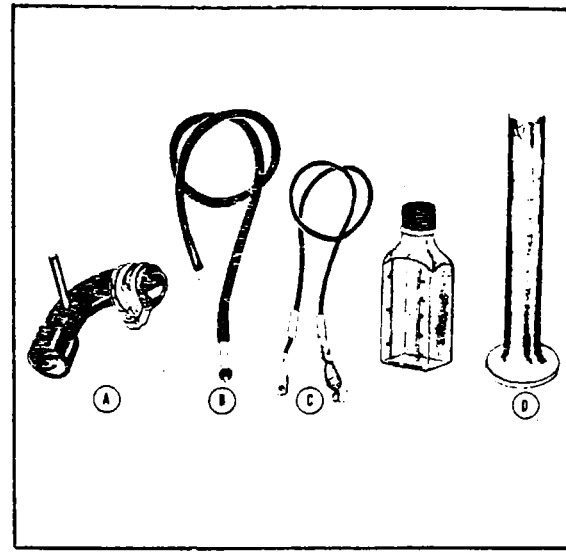

Figure 13-15. Test Stand Accessories
d. The test accessories consist of a test elbow (Refer to "A", Figure 13-15.), tubing adapter, rubber hose ("B", Figure 13-15), test wire ("C"), and a 50 cc glass graduate ("D").